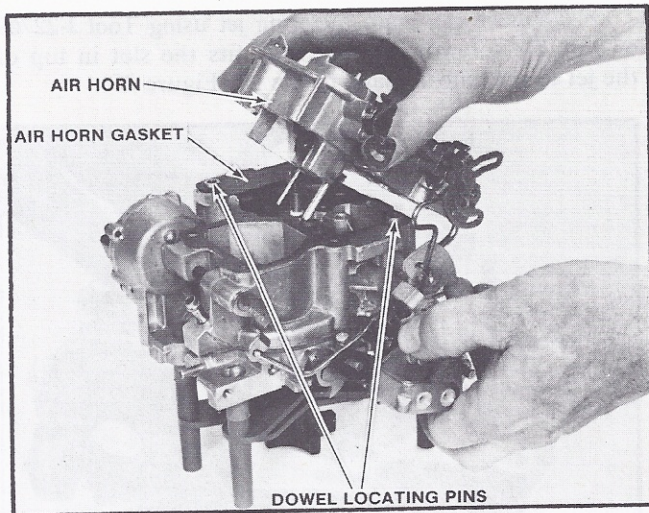

FIGURE 20 AIR HORN REMOVAL
10. Rotate fast idle cam to the full UP position and remove air horn assembly by tilting to disengage fast idle cam rod from slot in fast idle cam (Figure 20). The air horn gasket should remain on the float bowl for later removal.